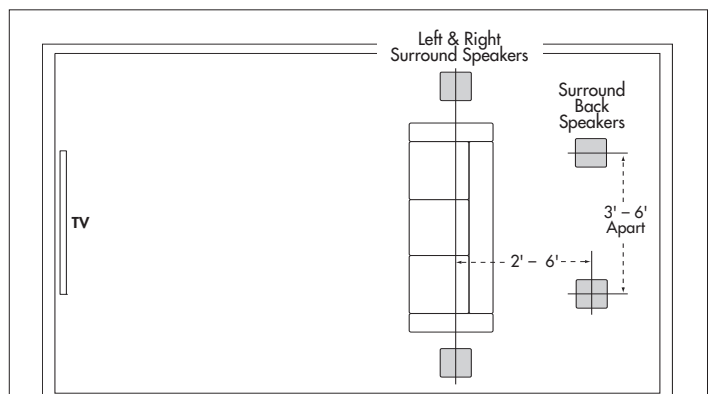

FIGURE 3: 7.1-CHANNEL SURROUND CHANNEL SPEAKER PLACEMENT
7.1-Channel System (see Figure 3)